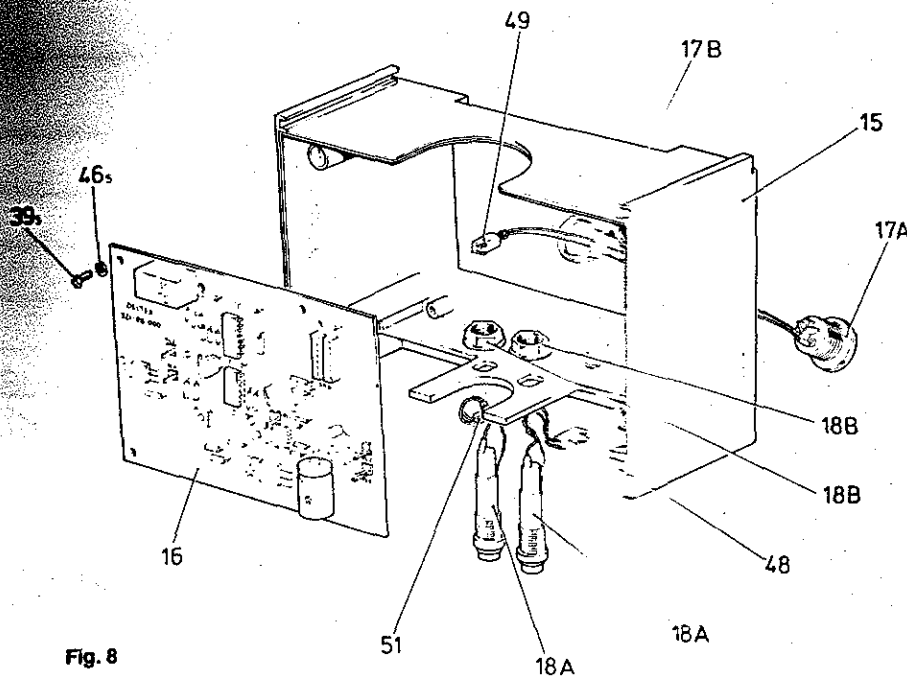

Fig. 8
Refer to Figure 8. Disconnect cable harnesses 1, 2, and 4 (items 48, 49, 51) from the printed circuit board (item 16).
Refer to Figure 8. Insert the two fuse holders (item 18A) and the 12V AC input receptacle (item 17A) by feeding cable harnesses 1, 2, and 4 (items 48, 49, 51) through the appropriate holes. Secure the fuse holders and receptacle with three large nuts (items 17B, 18B).